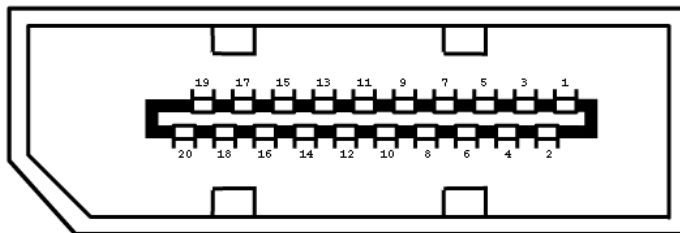

Figure 3-27: DP++ Connector Location
- CN Location:** See **Figure 3-27**